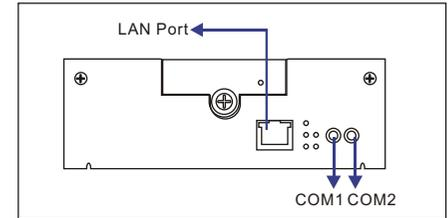

Figure 9: Locations of FC Ports
After the subsystem has been assigned a permanent IP, a shielded Ethernet cable can be used to connect the LAN port to a network hub, enabling you to manage your subsystem via standard TCP/IP. (See **Figure 9**.)
Each controller module comes with two (2) COM ports. (See **Figure 9**.) The port on the left (COM1) is reserved for terminal emulation management. This port can be used to assign a permanent IP to the ES subsystem. The port on the right (COM2) is used for UPS connectivity. One (1) audio-jack to DB9 cable is provided to facilitate the connection of COM1 port. Purchase an additional cable to connect the subsystem to a UPS through the COM2 port.